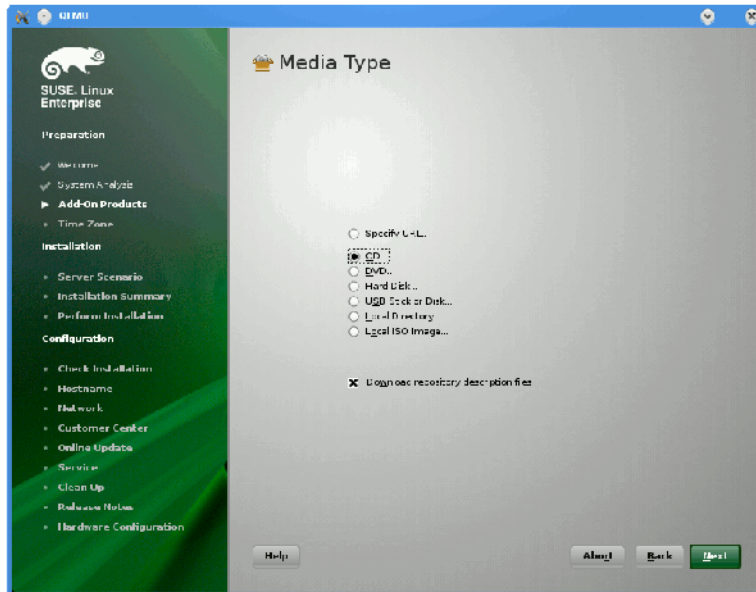

Figure 1-14 SLES11 Media Type Screen
3. From the **Media Type** screen, shown in Figure 1-14 on page 25, click the button to the left of **CD**.